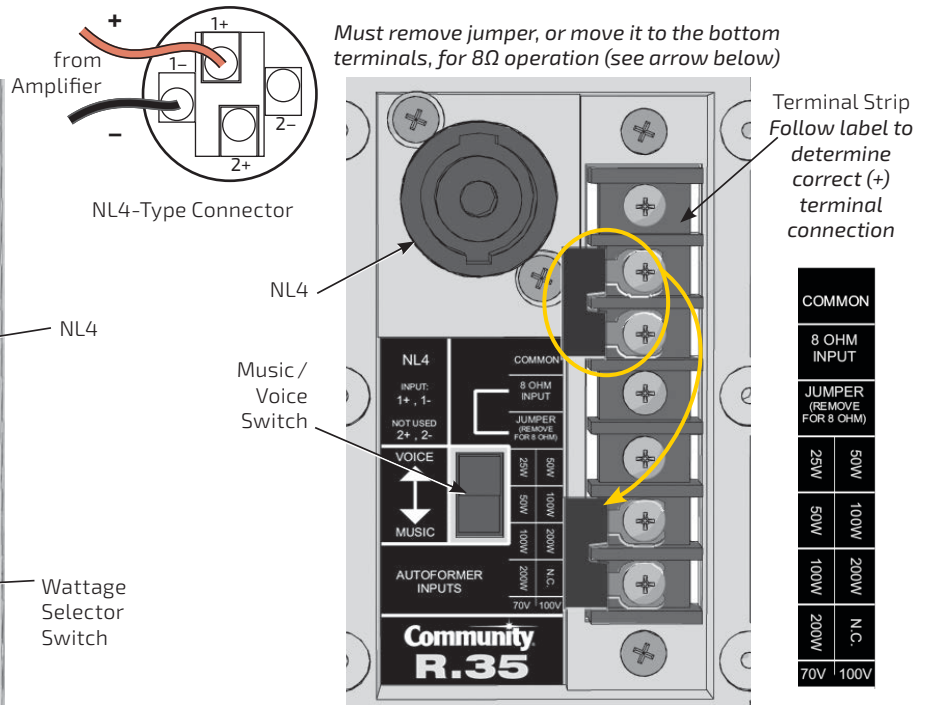

Figure 5b. R.35 input panel
R.35: Insert the cable through the gland nut and weather cover and wire the unit referencing the label for connections for your system voltage. See **Figure 5b**. There is a preinstalled jumper that should be left in the marked position for 70/100V use, or moved to the bottom terminals for 8Ω operation. *Failure to do so can result in damage to the loudspeaker and/or amplifier.* Set the Music/Voice switch to the desired position based upon your type of application. *The NL4 connection can only be used for low impedance 8Ω operation.*